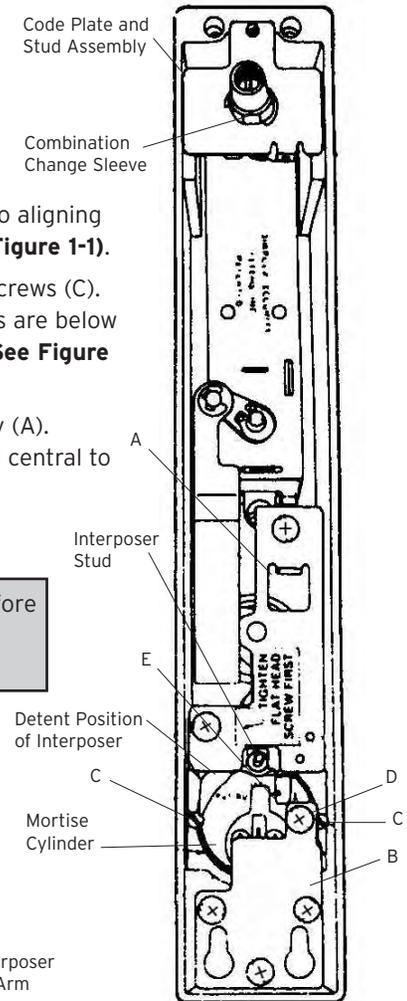

Figure 1-1
A-1 Cylinder Installation: Remove interposer assembly (A) by removing one round head screw and one flat head screw (**See Figure 1-1**).
A-2 Install Mortise cylinder by turning cylinder until cylinder cam (E) contacts lock-in plate (B) (**See Figure 1-1**). Turn cylinder to the left (counter-clockwise) less than one turn until the key is positioned in pull position (**See Figure 1-2**), also aligning to cylinder set screw grooves (**See Figure 1-1**).
A-3 Assemble two cylinder positioning screws (C). Make sure the heads of these screws are below the underside of the cylinder cam (**See Figure 1-1**).
Note: Interposer stud to be centered before mounting combination lock assembly (**See Figure 1-1**).